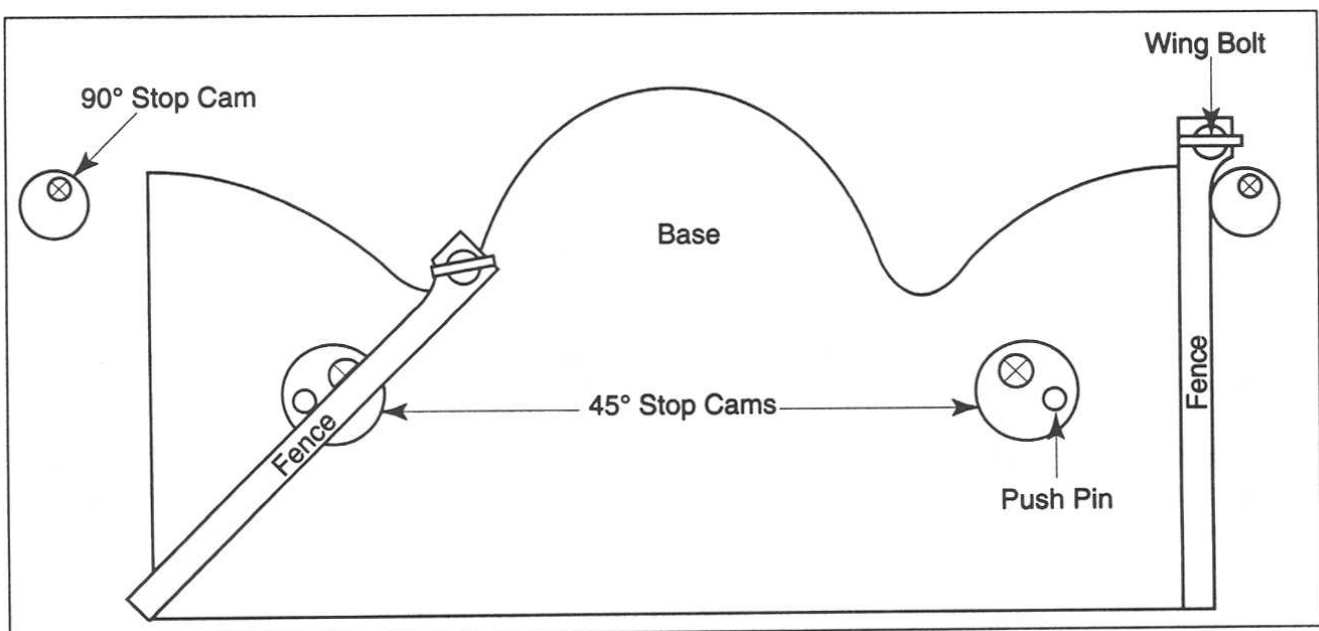

Figure 1
5. Similarly, the spring pin at the 45° position can be adjusted to compensate for minor inaccuracies. Simply rotate the cam to the desired position and tighten the stop in place. Slide the fence over the pin (you might need to use a small, flat-tipped screwdriver to push the pin down while the fence clears it), and the spring will pull the fence back against the pin to lock it in place at 45°. See Figure 1.